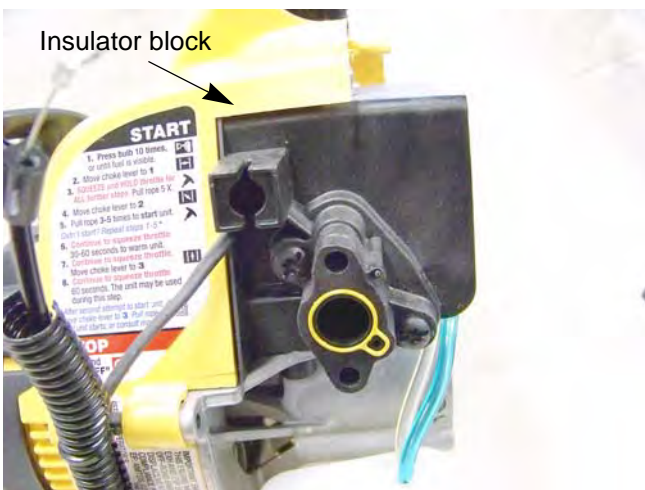

Figure 5.31
5. Remove the carburetor insulator block using a T-25 torx driver. See Figure 5.31.